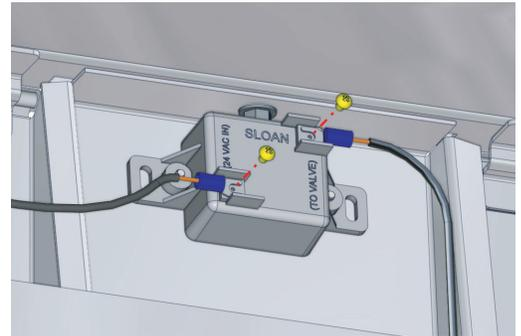

Figure 4: Unscrew and disconnect wires
2. From the back of the sink, unscrew the 2 small screws securing the wire spade connections to the IR sensors. Set these aside for later use. Disconnect the wire spades from the IR sensors (Figure 4).